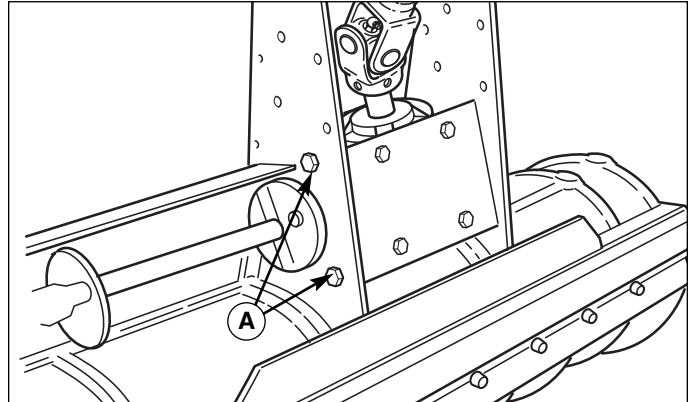

Figure 6. Remove Plate Hardware
1. Remove and retain the four capscrews, lockwashers, and flange nuts (A, Figure 6) securing the gear box plate.
4. Using 1/2" wrench remove six nuts, washers, and bolts (B, Figure 6).